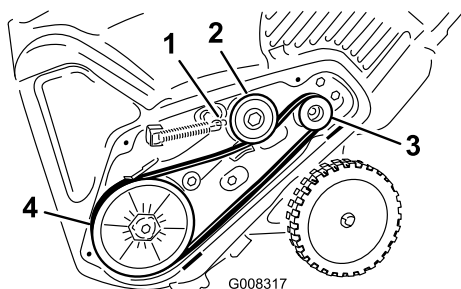

Figure 29
- Install the new drive belt, routing it as shown in Figure 29.
- Install the brake spring onto the idler arm (Figure 29).